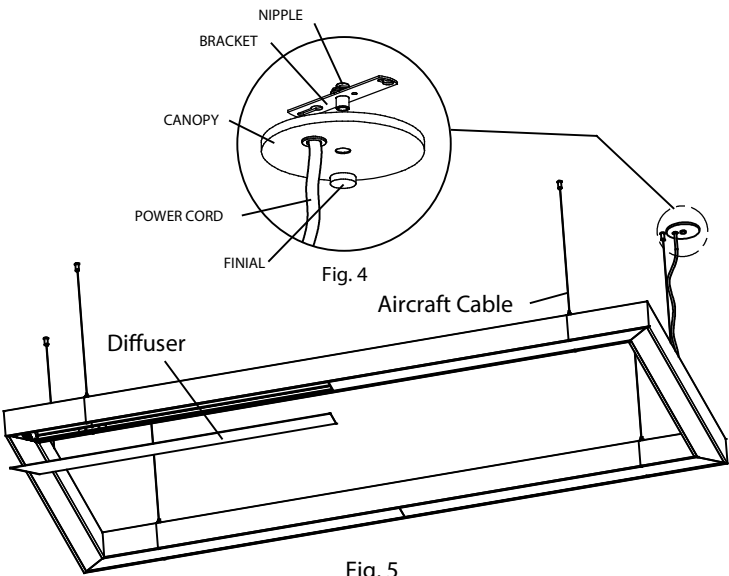

Fig. 5
11. Insert diffusers textured side down by slightly twisting and lifting into place (Fig. 5).